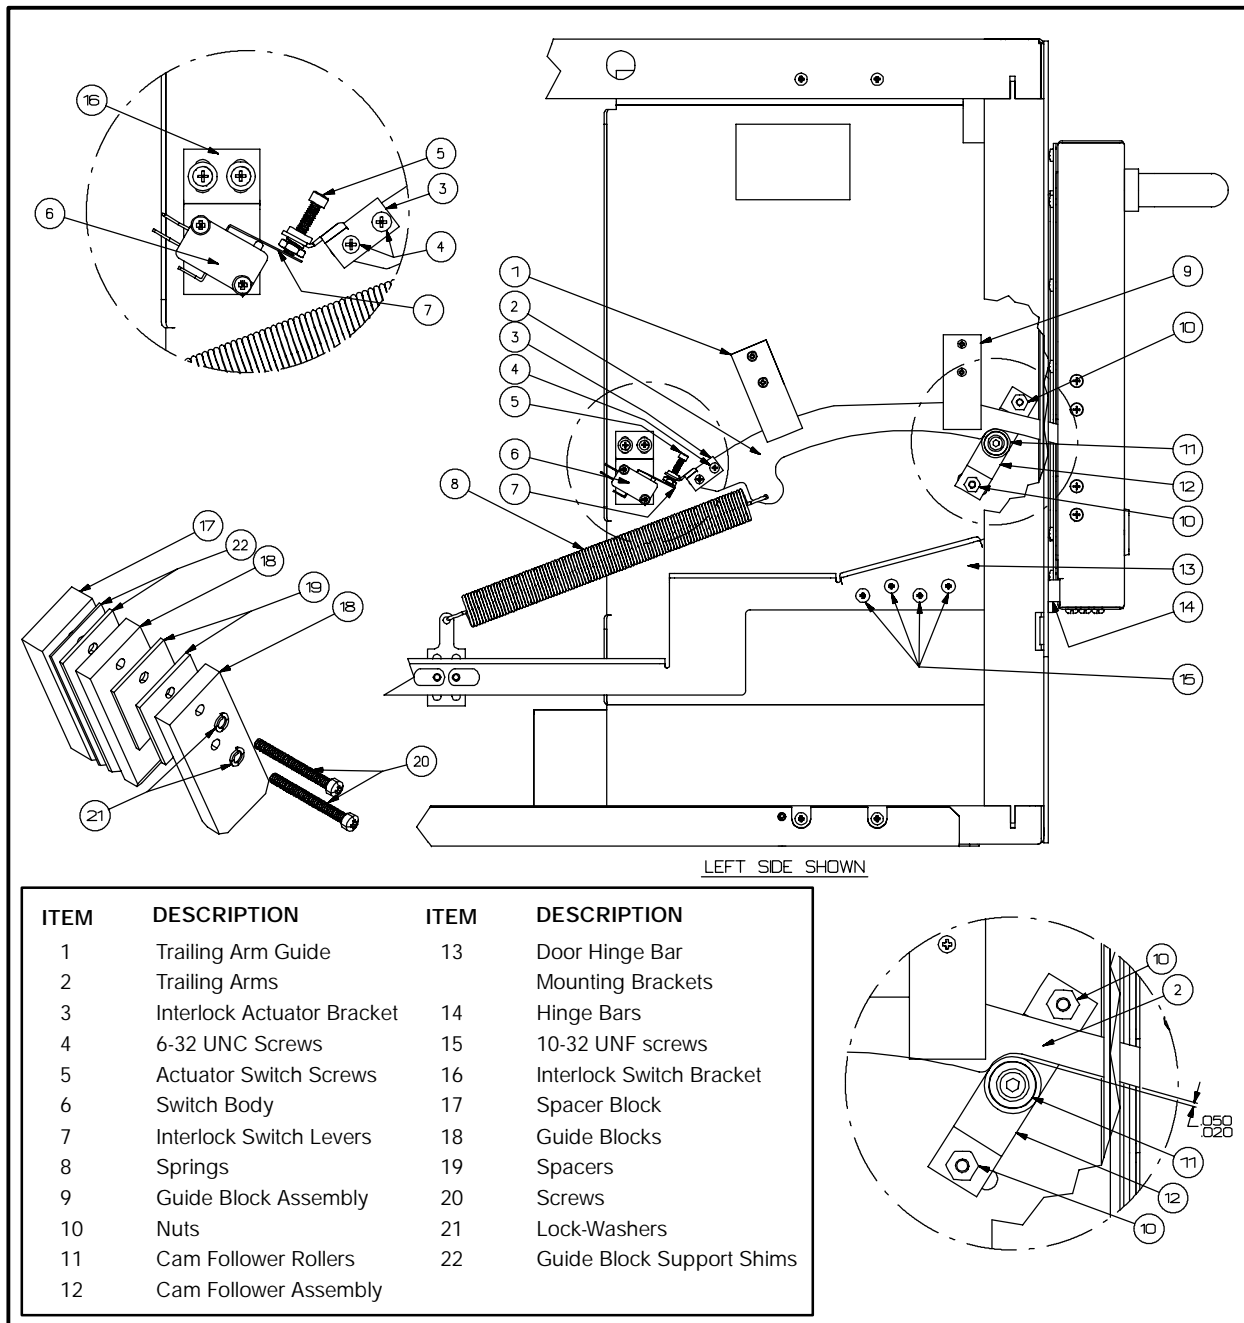

FIGURE 4
9. Before starting to do any adjustments, review FIGURE 4. In the upper left hand side of Figure 1 is a detail of the door switch and its actuating screw. Compare this figure to the door switches on the C70 oven with the oven door is closed. The activator switch screw (5) must be engaging the door switch interlock switch lever (7). If these two parts are not engaging, it may be necessary to move the whole switch assembly by adjusting the two Phillips screws holding the door switch assembly in place.
10. Be sure the actuator switch screw at any time during this door switch adjustment is not overdriving the interlock switch lever (7) so that it is hitting the switch body (6).